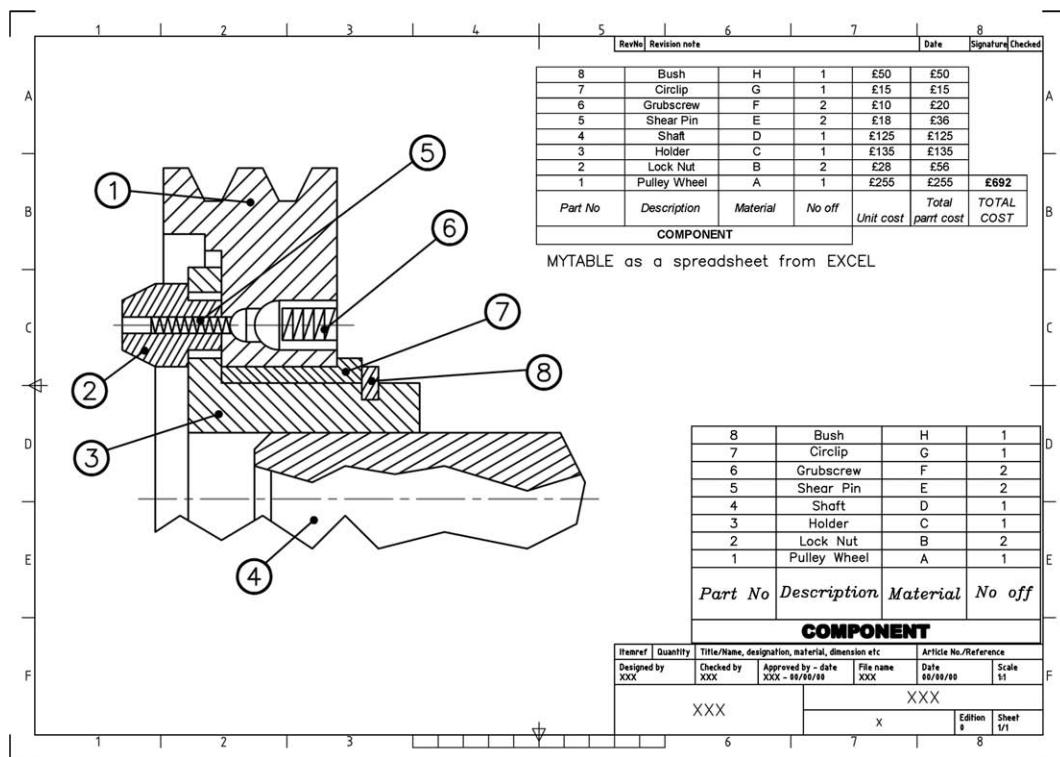

Figure 29.3 Inserting a wblock exercise.
- 2 Refer to Figure 29.3 and:
- 4 Now complete the drawing by editing the table for the entries displayed in Figure 29.3.
- c) Figure 29.3 displays the MYTABLE from EXCEL copied and pasted back into AutoCAD.